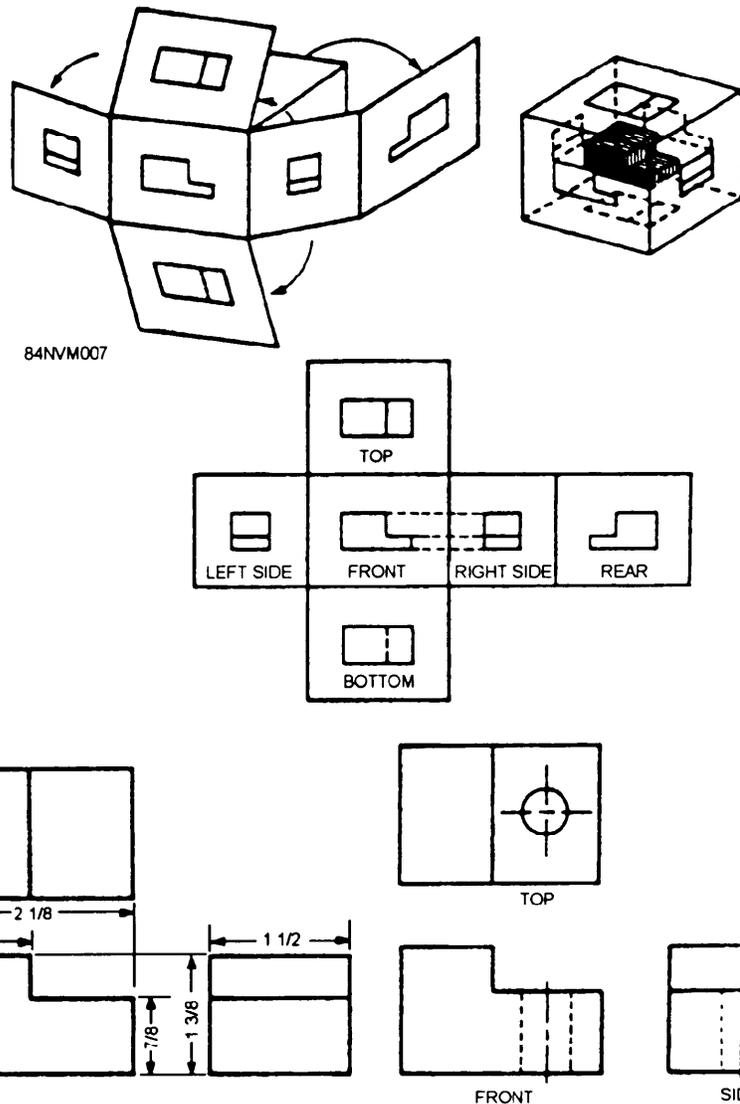

Figure 13-7.—Orthographic projections.
**ORTHOGRAPHIC VIEWS.**—As an HT, you will be most concerned with a three-view orthographic projection, which shows all sides of an object. The sides, top, and bottom of the object are drawn in detail, but appear to be transparent, as shown in figure 13-7. Any features of an object that are hidden from view on any of the three projections are shown using hidden